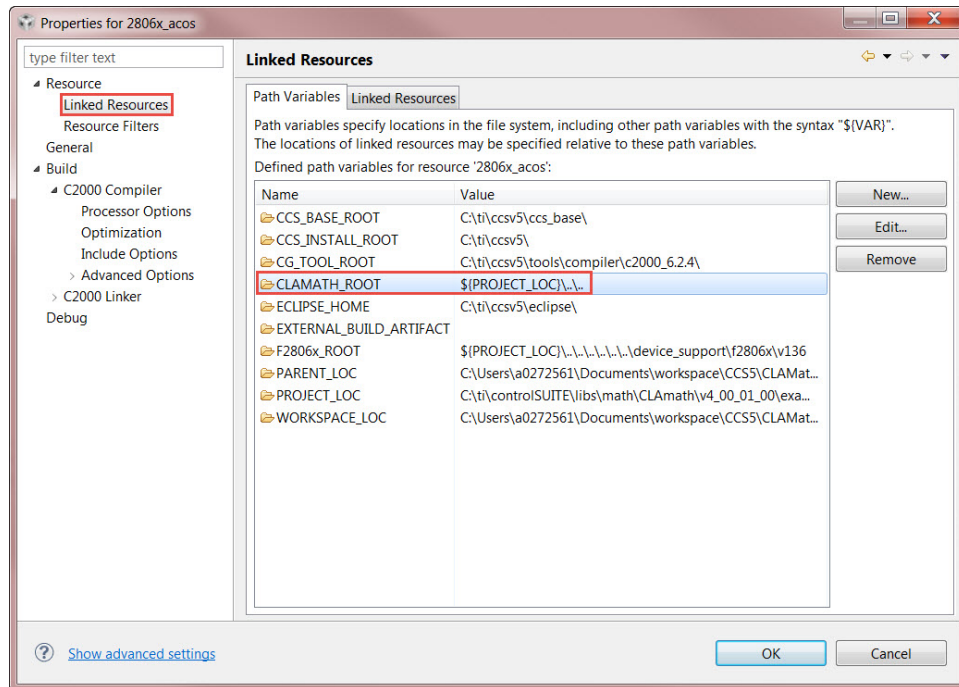

Figure 4.4: Creating a new build variable
1. Go to **Project Properties->Linked Resources** and add a new variable (see Fig. 4.4), CLA-MATH_ROOT, and point it to the root directory of the CLA Math library in C2000Ware, i.e. the c28 folder.